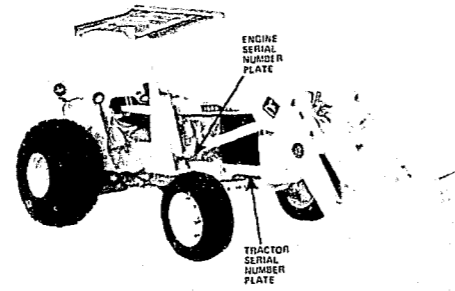

Figure 1
- The model number appears on the sides of the forklift and also on the forklift serial number plate. (See Figure 1)